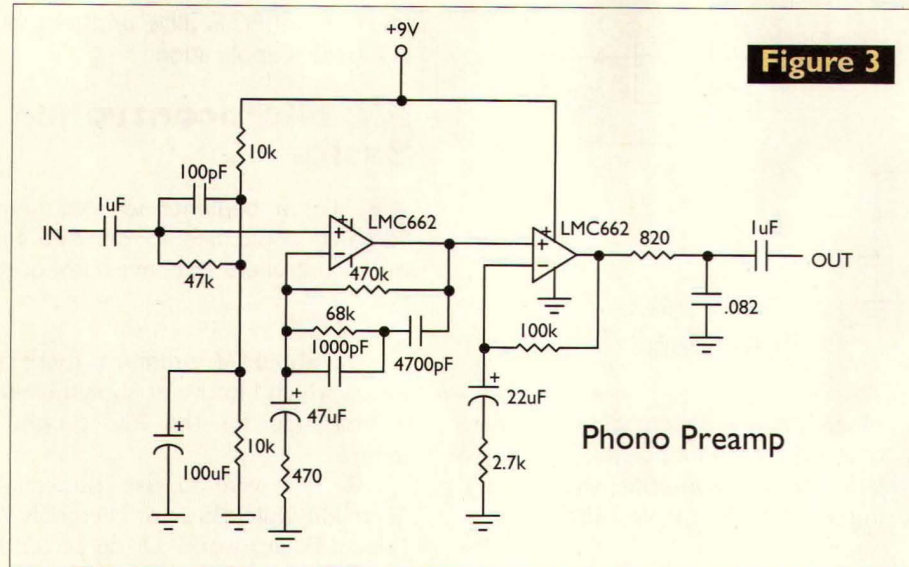

Figure 3
A. Here is a circuit built around a dual CMOS op-amp that can be powered from a single nine-volt battery (Figure 3). The preamplifier is RIAA compensated and includes a rumble filter to eliminate turntable noise in the recording. The preamp output plugs into the Aux input of your sound card. For stereo, you need two of these circuits. Depending on your construction skills, the preamp can be reduced to about the size of a BIC lighter using the SOIC surface mount version of the chip and lithium cells.